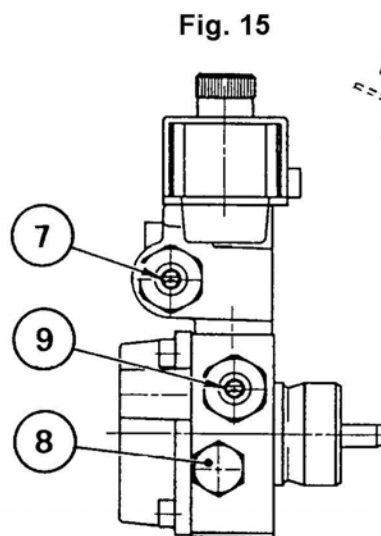

Fig. 15
The pressure gauge must be mounted in place of cap (8), (see fig. 15).